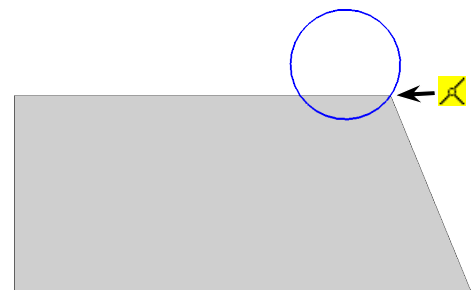

Fig. 58
Step 4. Click **Circle**  (S) on the Sketch toolbar.
Step 5. Sketch circle forward of and coincident  with top rear vertex of body, Fig. 58.